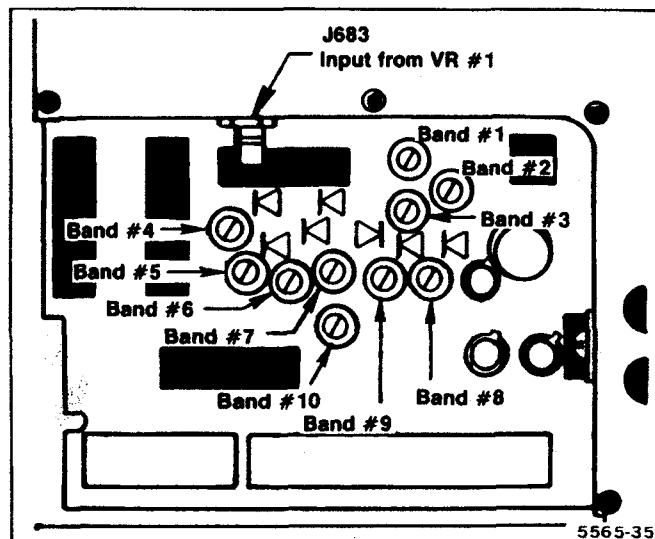

Figure 5-24. Band leveling adjustment and gain diode locations.
f. Adjust Band 2 Gain R3034 on the VR Mother board #2 (Figure 5-24) for a full screen (−20 dBm) display.
i. Adjust Band 3 Gain R3030 (Figure 5-24) for a full screen display.
b. With −60 dBm input level applied, adjust Band 6 Gain Leveling R3024 (Figure 5-24) for full screen display.